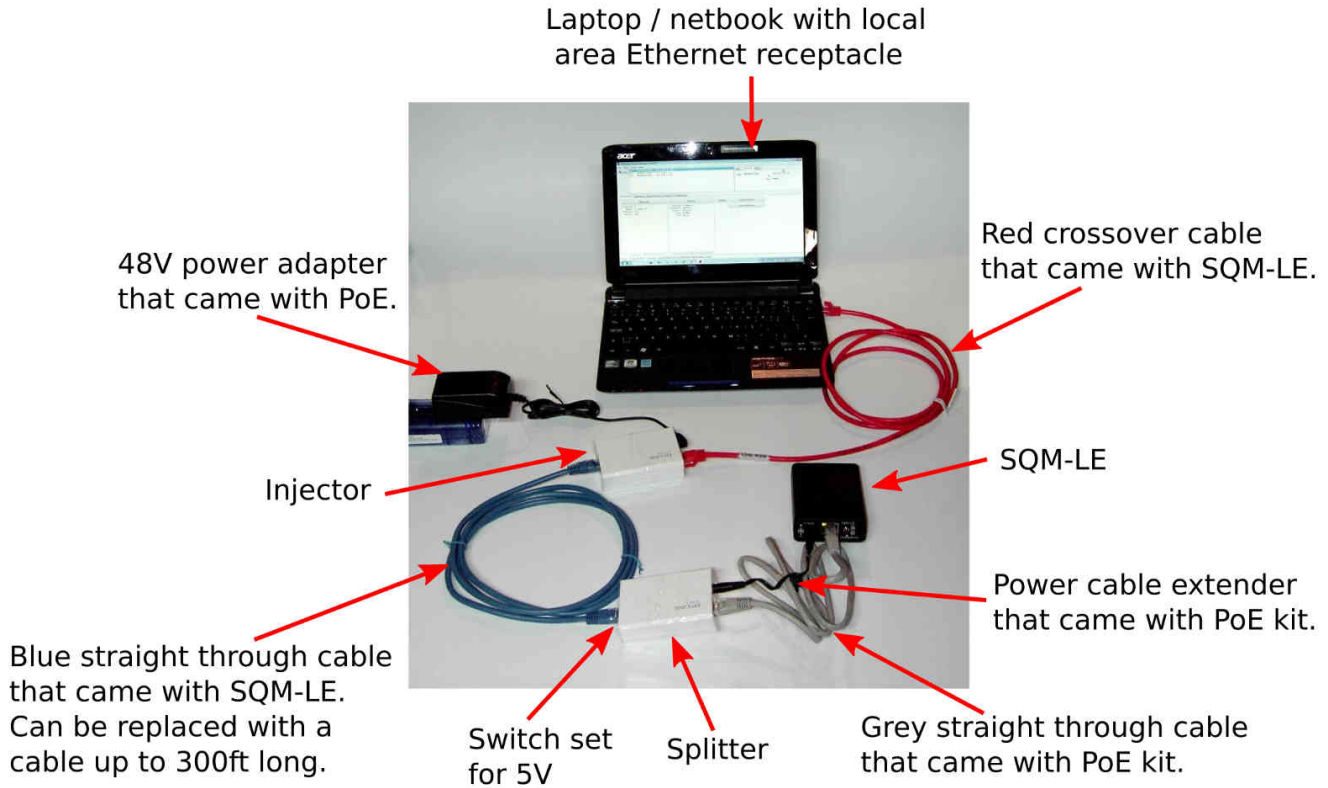

Figure 5.6: PoE wiring example
2. Wire up the system as shown in figure 5.6: